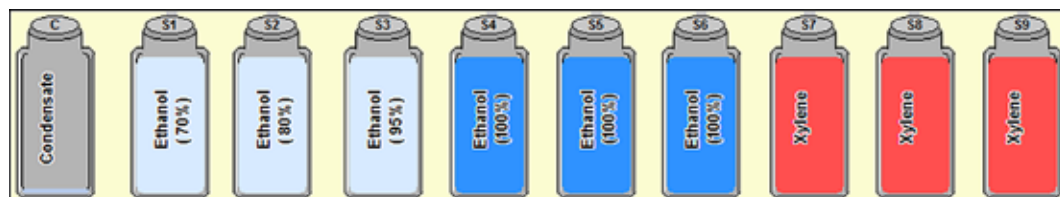

Fig. 50
- The system bottles are designated "S1" to "S9" and are combined in a separate area on the screen (Fig. 50). The condensate bottle, designated "C", is on the left.